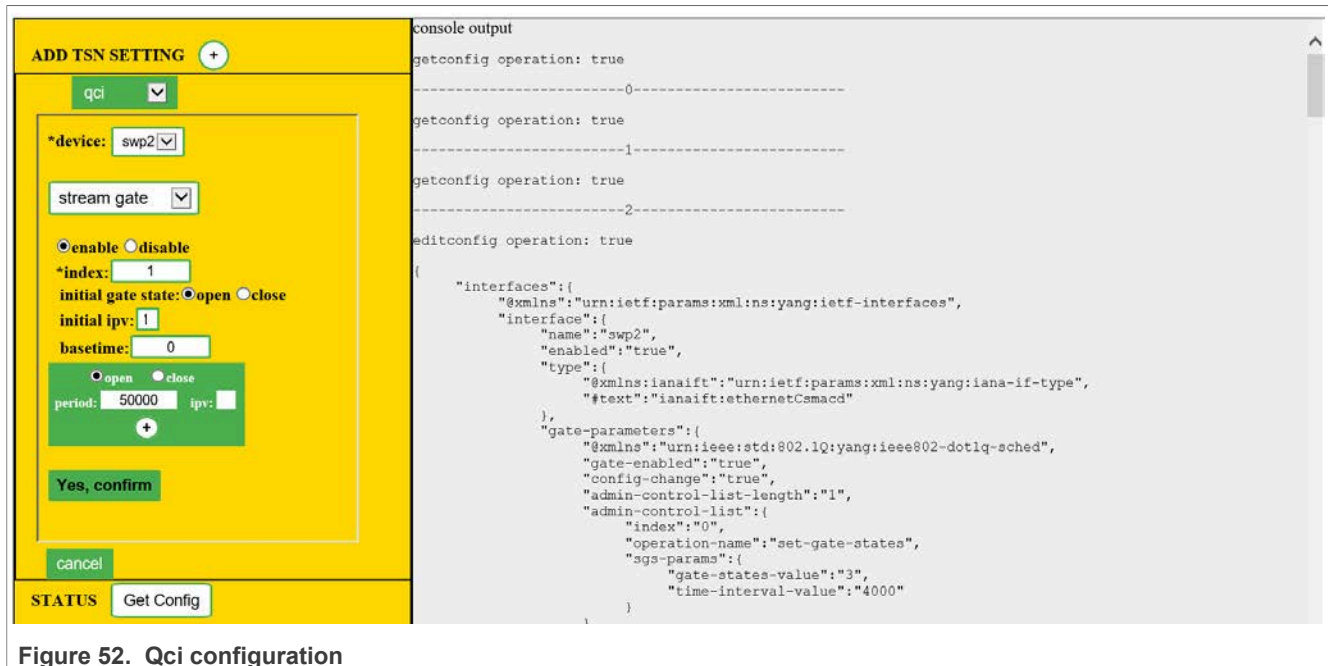

Figure 52. Qci configuration
- **Qci Configuration:** Selecting 'qci' option setting displays the options as shown in Figure 52.